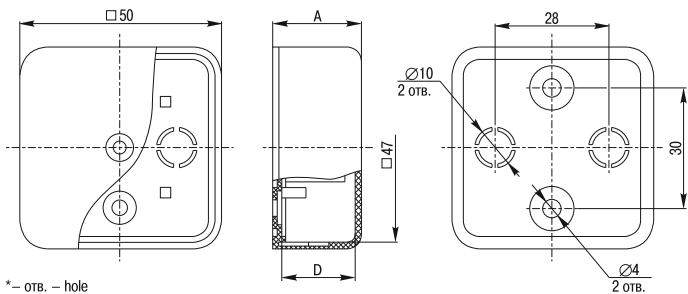

Рисунок 1 / Figure 1
2.1 The main technical specifications of boxes are listed in tables 1–3 and shown on the figures 1–3.
2.2 General geometrical and installation dimensions of the boxes are shown on the figures 1–3 in Appendix A.